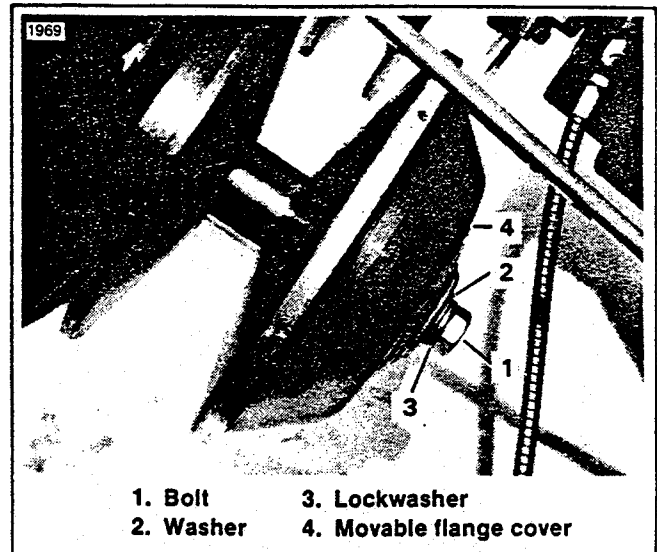

Figure 7-3. Removing Movable Flange Cover Hardware
3. See Figure 7-3. Remove primary cover plug (3) and outer cover screws (2). Pull outer cover (1) off.
4. See Figure 7-3. Remove the bolt (1), washer (2) and lockwasher (3) from the floating flange (4).